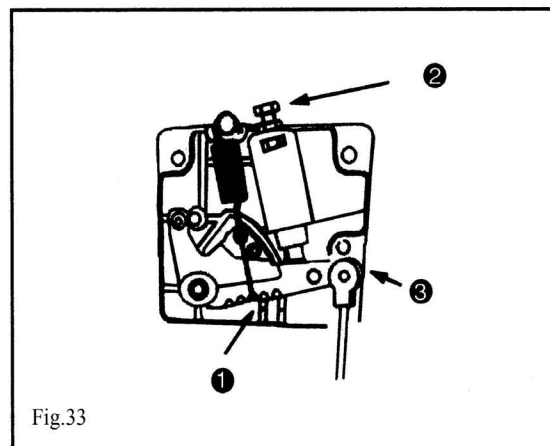

Fig.33
27. Adjusting the needle stop position (Fig.33)